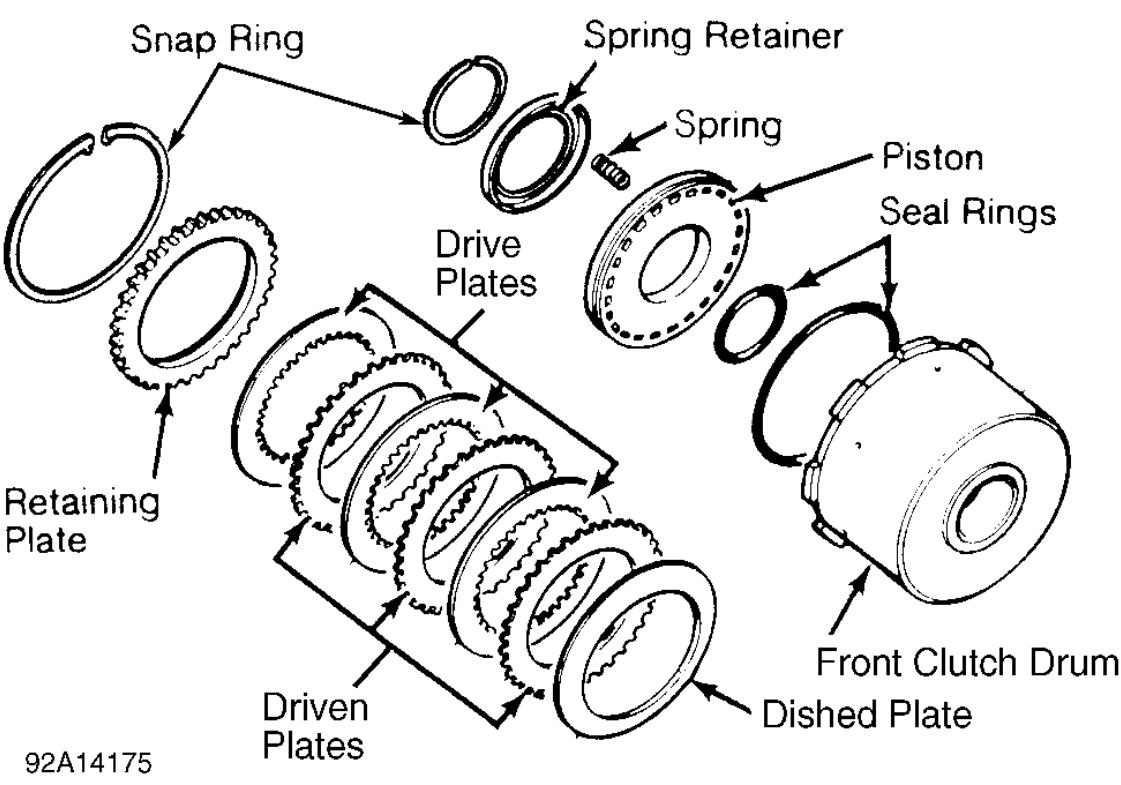

Fig. 15: Exploded View Of Front Clutch
Remove retainer plate snap ring. Remove retainer plate, drive and driven plates and dished plate. See Fig. 15 . Note position of dished plate for reassembly. Using appropriate compressor, compress return springs to remove spring retainer snap ring. Remove spring compressor. Remove spring retainer and return springs. Apply air pressure to front clutch oil passage and remove front clutch piston.
2. Install dished plate. See Fig. 15 . Install drive and driven clutch plates, retaining ring and snap ring. Using feeler gauge, measure between snap ring and retaining plate. Clearance should be .063-.071" (1.60-1.80 mm). If clearance is not correct, select correct thickness retaining plate. Retaining plates are available in thicknesses of .205" (5.20 mm) to .244" (6.20 mm) in .20 mm increments.